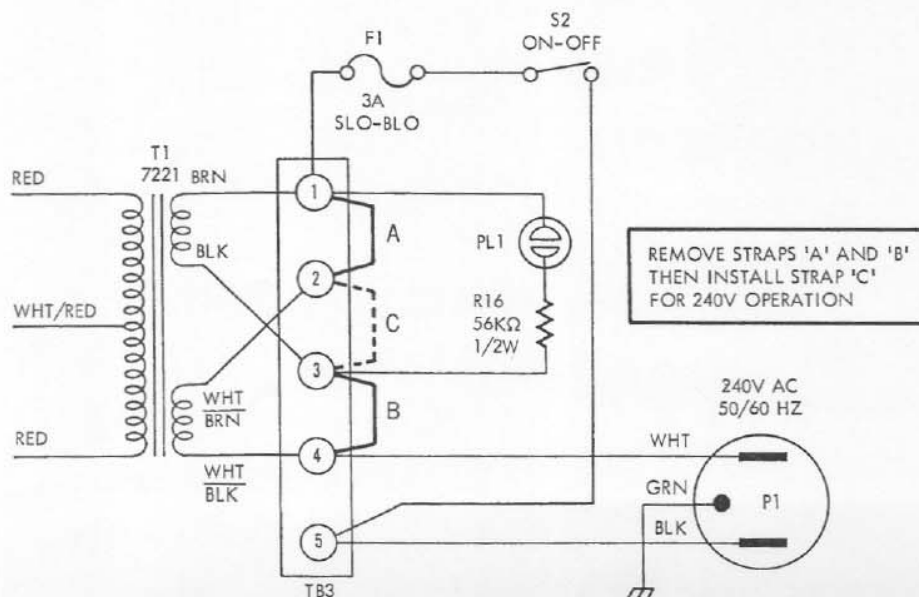

Figure 3. Converting to 240V ac, 50/60 Hz Operation
3. Remove strap "A" connecting terminals 1 and 2 and remove strap "B" connecting terminals 3 and 4; solder strap "C" to terminals 2 and 3 (see Figure 3).